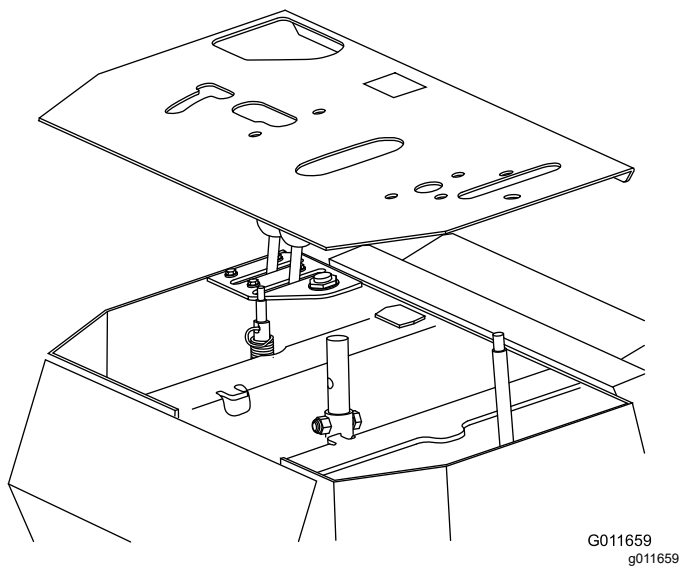

Figure 7
7. Remove the control panel as shown in Figure 7.